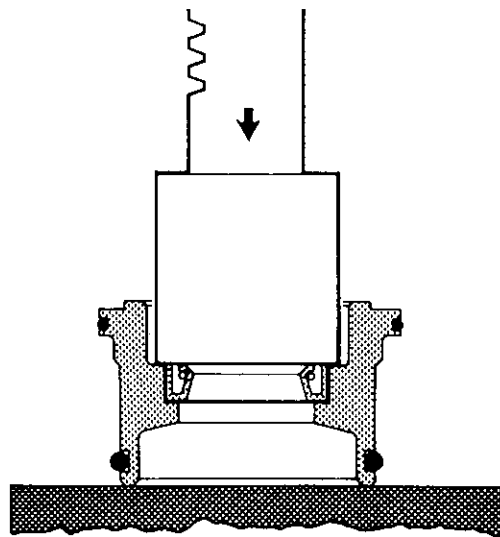

Figure 4.19
6. Install a new drive housing seal (13) and bearing retainer seal (16) on bearing retainer (14). Apply Lithium base general purpose grease to bearing retainer seal.
7. Install a new drive shaft seal (11) in bearing retainer. Apply Lithium base general purpose grease to I.D. of seal. See Figure 4.19.